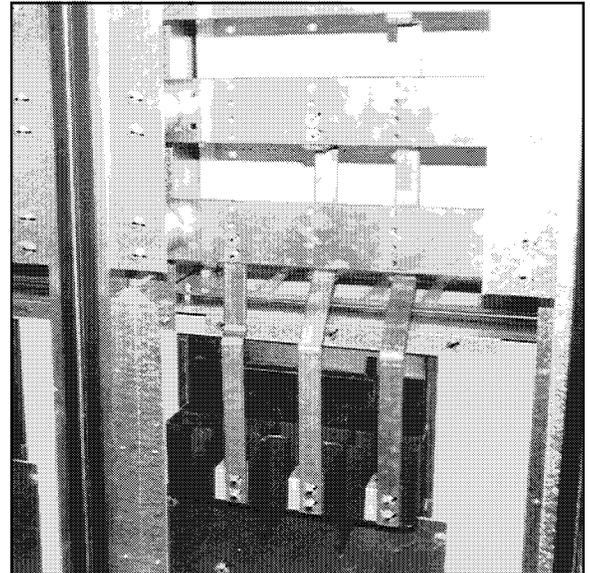

Fig. 51 Check Electrical Joints
- Examine all visible terminals and joints for signs of overheating (Fig. 51). An overheated connection will appear discolored. Be suspicious of any conducting joint which has a darker color than other similar joints.